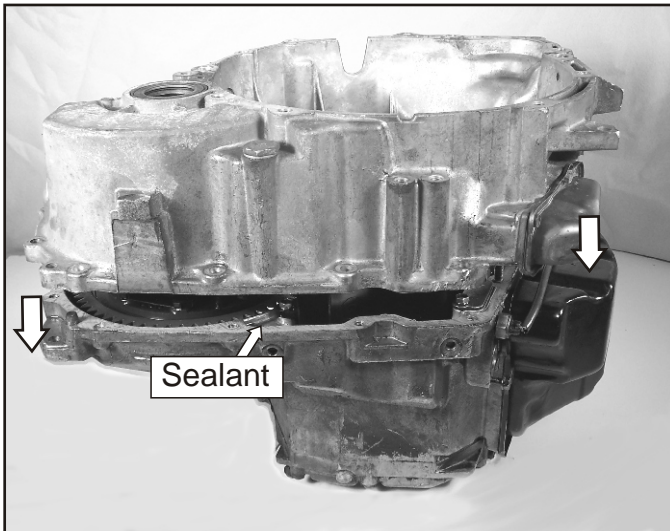

Figure 286
- 210. Apply a thin coat of sealant between the case half and the bell housing and assemble the bell housing onto the case half. See Figure 286.